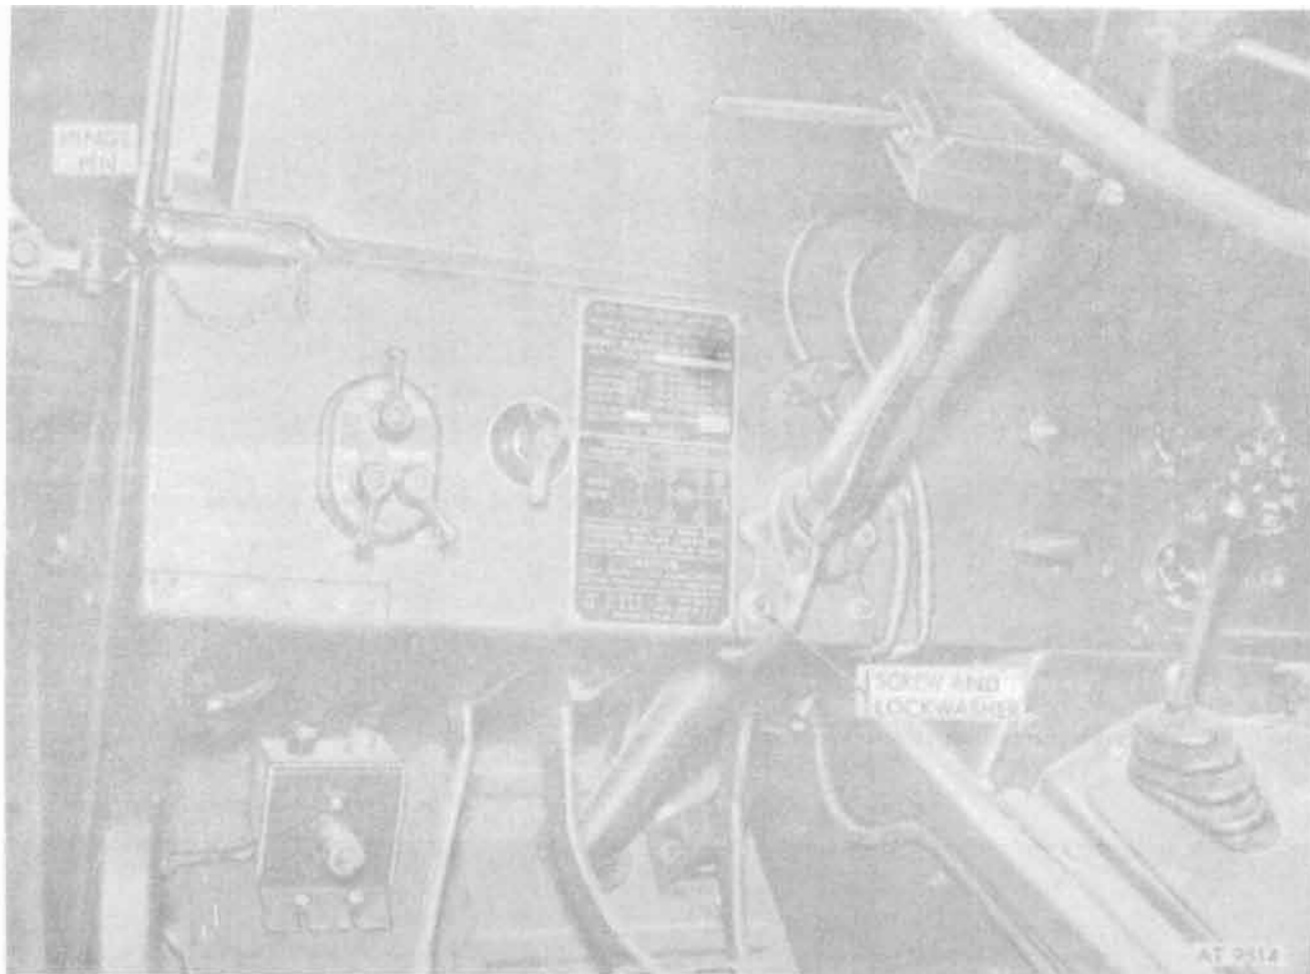

Figure 18-94. Steering column mounting bracket and hinge pin.
- a. Remove and discard left windshield hinge pin (fig. 18-94).
- b. Remove and stow screw and washer assembly from lower left steering column bracket on dash panel (fig. 18-94). Discard flat washer.